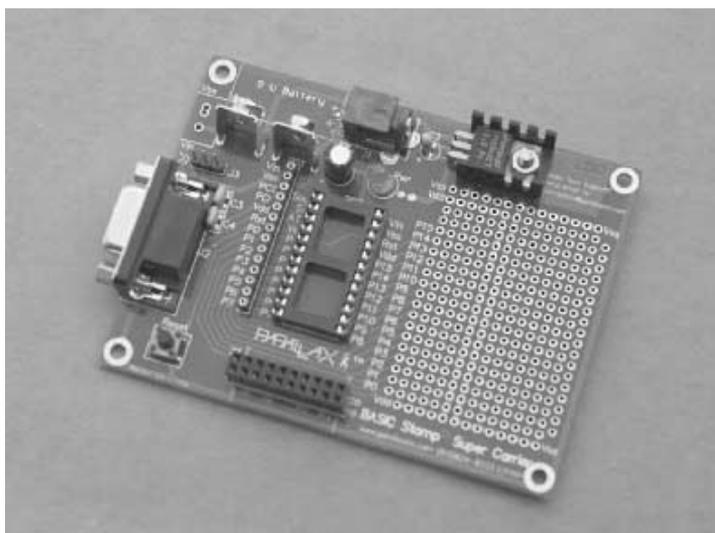

FIGURE 31.3 The Basic Stamp carrier board, ideal for experimenting with the BSII. Sockets are provided for both the BSI and BSII.
- *BSII Starter Kit.* The starter kit is ideal for those just, well, starting out. It includes a BSII module, a carrier board, a programming cable, a power adapter, and software on CD-ROM. The carrier board, shown in Fig. 31.3, has a 24-pin socket for the BSII module, a connector for the programming cable, a power adapter jack, and a prototype area for designing your own interface circuitry.